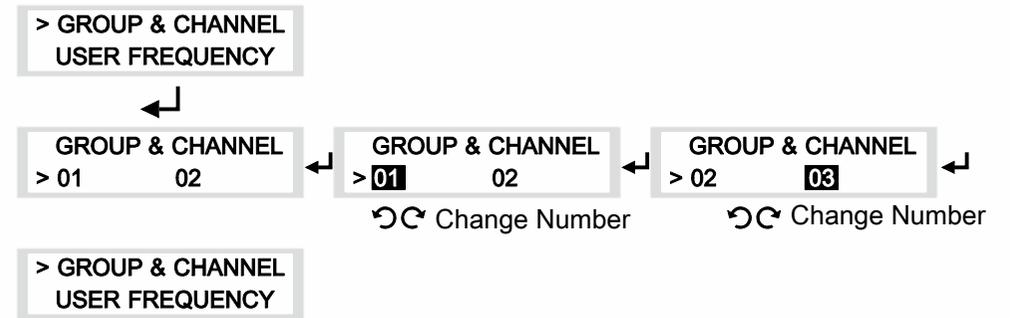

Fig. 8
(A) GR CH: GROUP / CHANNEL settings, Fig. 8